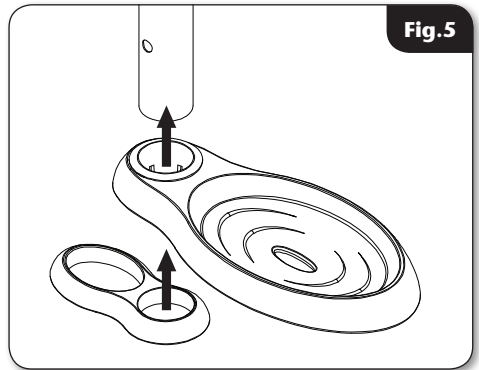

Fig.5
- Slide the soapdish and hose retainer onto the bottom of the riser rail, below the holder (**fig.5**).